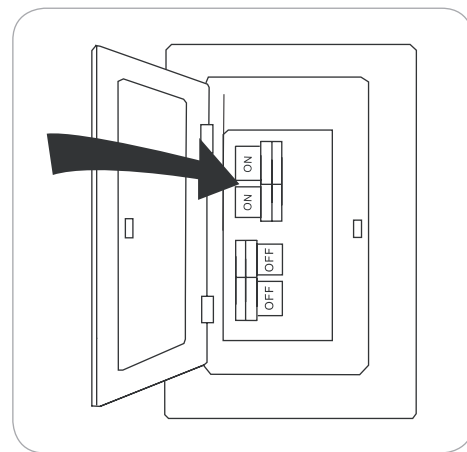

Figure 5.9
9. Turn on power to fan at breaker box and the wall switch (Figure 5.9). Assembly is complete.